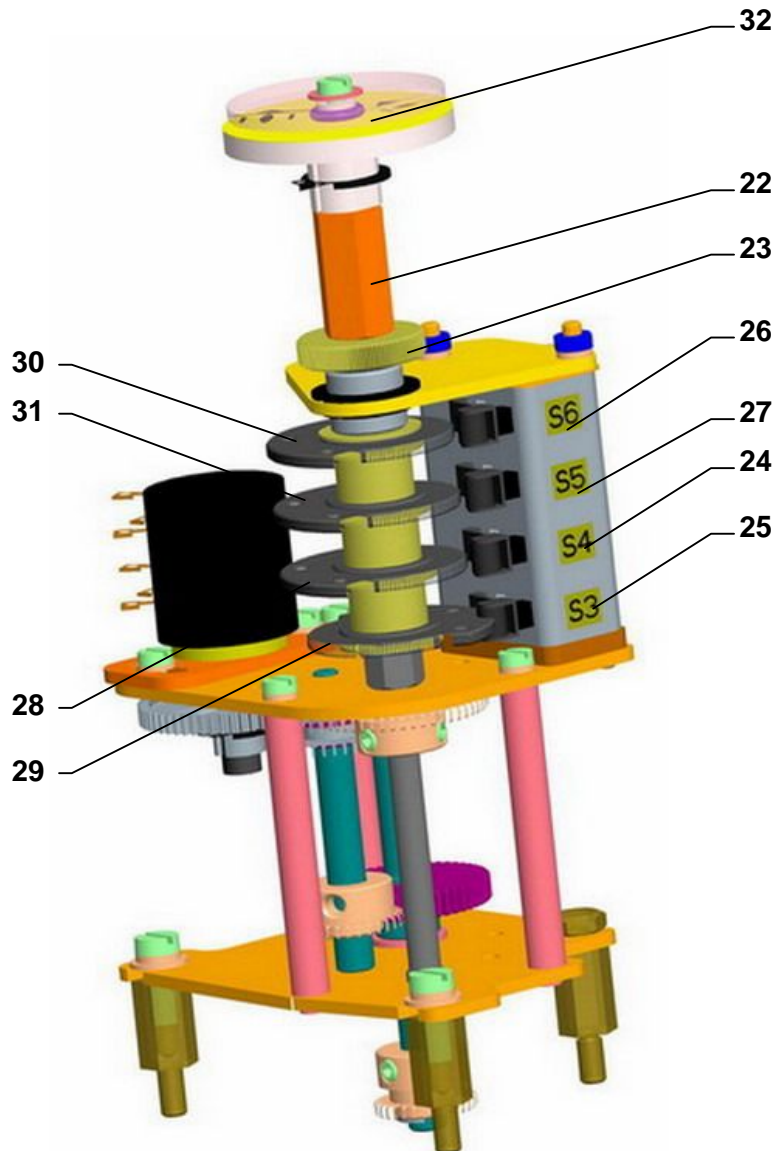

Fig.3
4.2 Adjustment of position-signalling unit (Fig.3)
UP 1-Ex, UP 2-Ex, UP 2.4-Ex, UP 2.5-Ex (Fig.3):
While setting, adjusting and resetting follow these steps (Fig. 3):